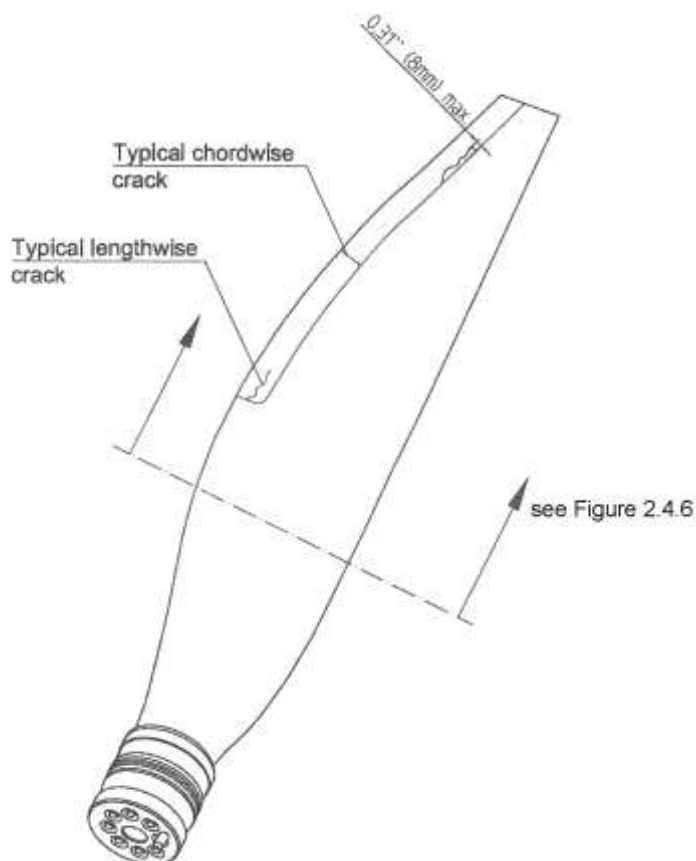

Figure 1: Missing portions of Nickel erosion shield (Trail side) and typical cracks
Refer to Figure 1, 3
- Airworthy damage limits:** Two chordwise cracks are only allowed if they are not starting from the camber side to the thrust side and may not be within 152.5mm (6 in) of each other. A chordwise crack over 25 mm (1.0 in) may not be within 152 mm (6.0 in) of the blade tip. A chordwise crack over 25 mm (1.0 in) may not be within 152 mm (6.0 in) of the outboard end of the anti-icing boot. A chordwise crack over 25.5 mm (6 in) may not be within 152 mm (6.0 in) of the inboard end of the erosion shield (when not covered by anti-icing boot). Refer to Fig.1, 2
- Airworthy damage limits:** The maximum permitted length of a crack is 50 mm (2.0 in). Two lengthwise cracks may not be within the same linear length on the erosion shield. This includes cracks on opposite sides of the blade. Refer to figure 1, 2, 4, 5.